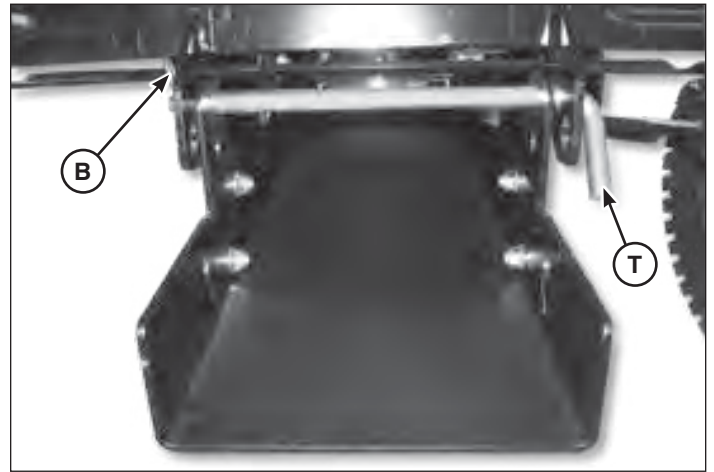

Figure 7
1. At the front of the tractor, align the top slot of the sub-frame assembly to the tractor frame. Slide the hitch latch rod (**T**, Figure 7) through the slotted holes of the sub-frame assembly and the holes of the tractor frame.